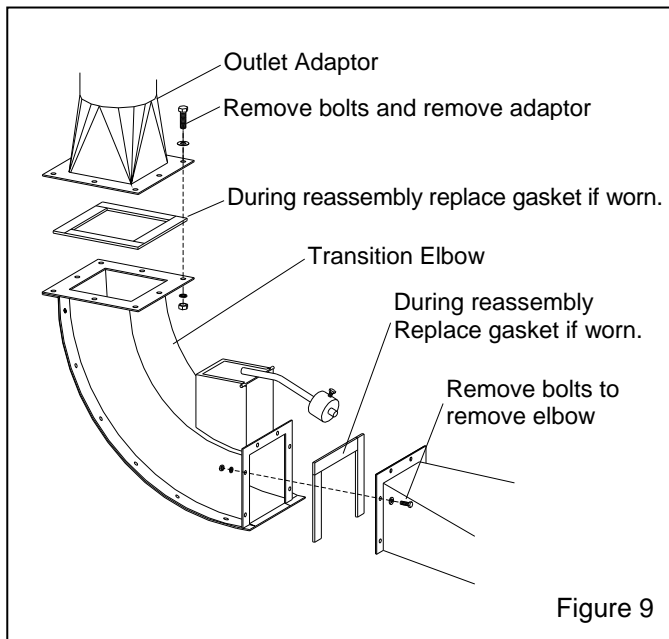

Figure 9
## 12.3 Transition Elbow Wear Plate Figures 9 and 10
**12.3.1** Remove the bolts securing the top adaptor and remove the top adaptor, as shown in Figure 9. Remove the flex hose if necessary.